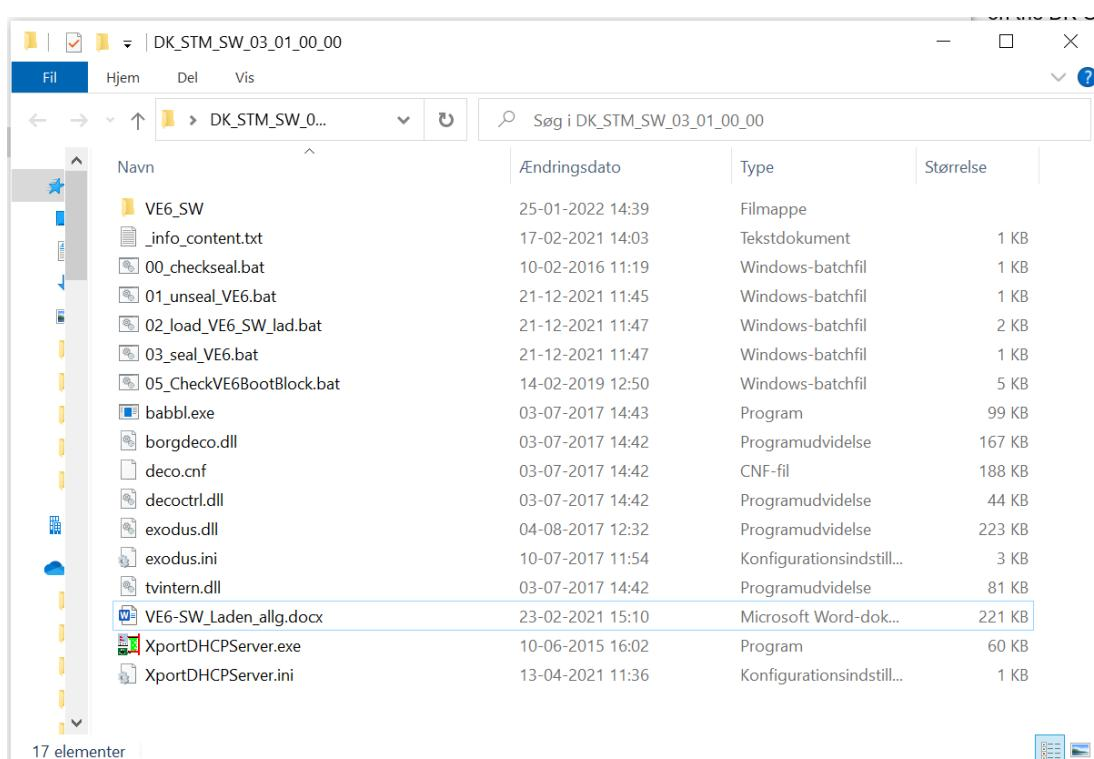

Figure 2 - SW directory example
| Figure 2 - SW directory example..... | 6 |
- See Figure 2 for SW directory example.
- See Figure 2 for SW directory.
- In SW directory (see Figure 2) start **01_unseal_VE6**
- See Figure 2 for SW directory
- In the SW directory (see Figure 2) start **02_load_VE6_SW_lad**